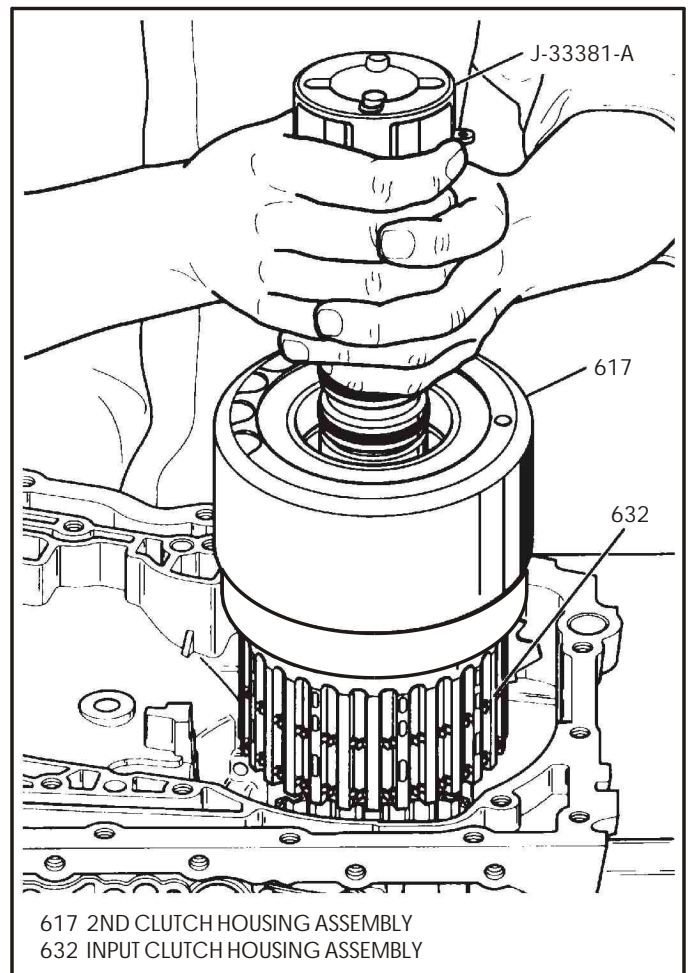

Figure 169
60. Install the entire assembly into the case while rotating, to engage the sun gear into the input carrier, and the splines on second clutch drum into reverse reaction drum (See Figure 169).